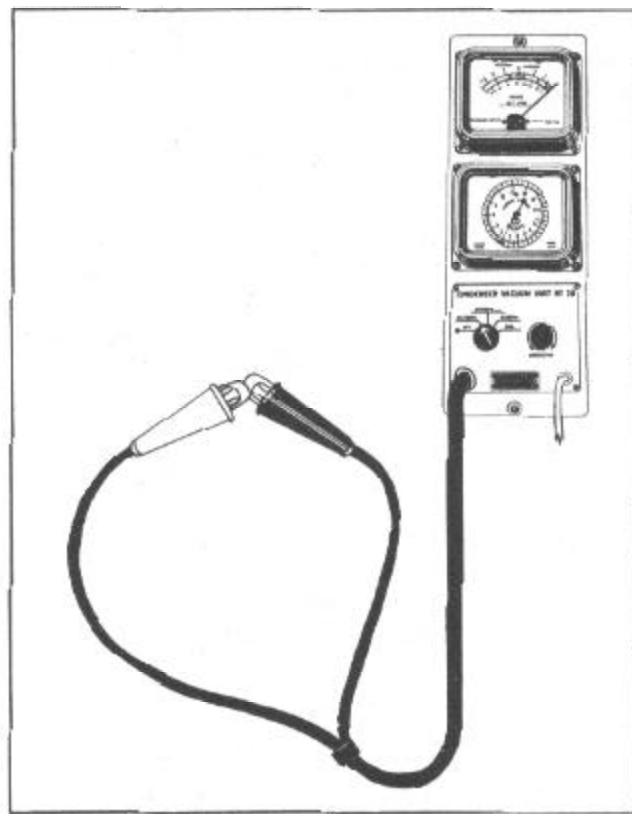

FIGURE 14
2. Connect the two condenser test leads together, Figure 14.